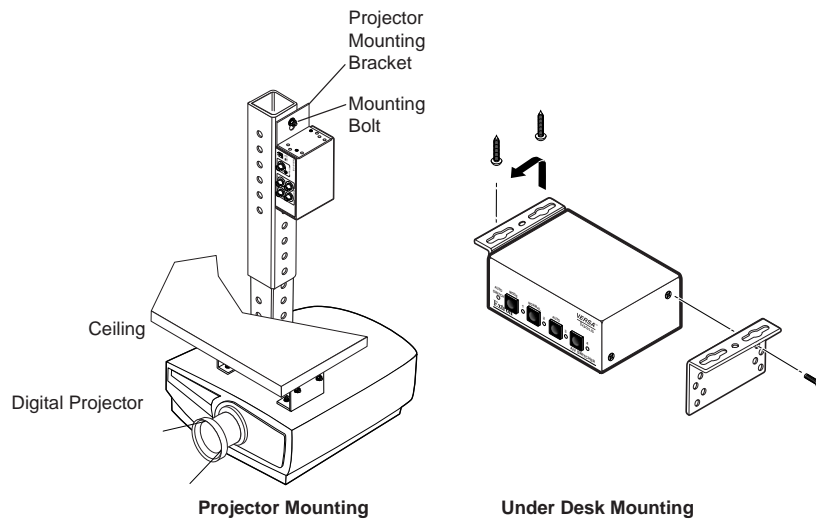

Figure 3 — Desk and projector mounting the MSW
1. Attach the mounting brackets to the MSW with the machine screws provided (figure 3).